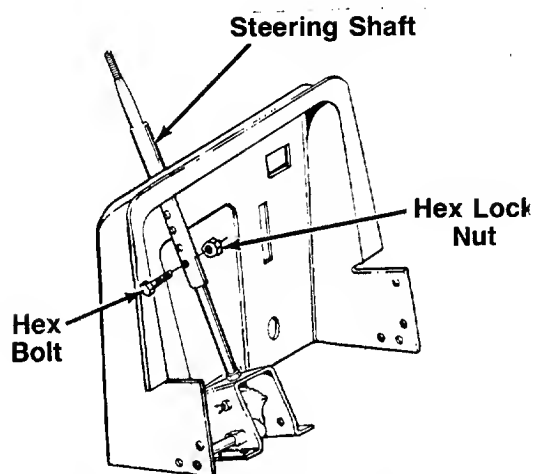

FIGURE 4.
1. There are four height positions for the steering wheel. For shipping purposes, the steering shaft is assembled in the lowest position. Lift the hood of the tractor. Remove the hex bolt and hex lock nut on the steering shaft. Raise the shaft to desired position and secure with hex bolt and hex lock nut. See figure 4.